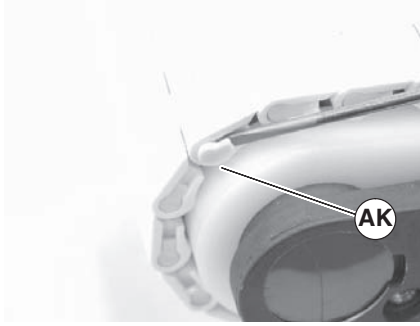

Figure 17
2. Choose one link on the idler end of chain to remove endcaps. With a 3/32" (2.4 mm) flat blade screwdriver, pry under tab of end caps (Figure 17, item AK) and remove end cap. Repeat for opposite side of conveyor.